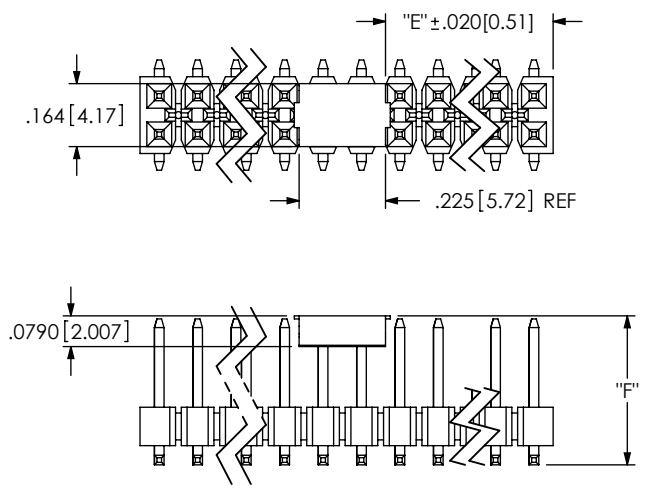

FIG 5
- \*-M: METAL PICK AND PLACE PAD (USE LMP-01, SEE FIG 5, SHT 2) (NOT RECOMMENDED WITH -T OR -TM PLATING) (LEAD STYLES -01 & -04 ONLY) (AVAILABLE ON POS 04 THRU 36) (AVAILABLE ON POS 02 AND 03 WITH -TR OPTION ONLY, SEE NOTE 5)